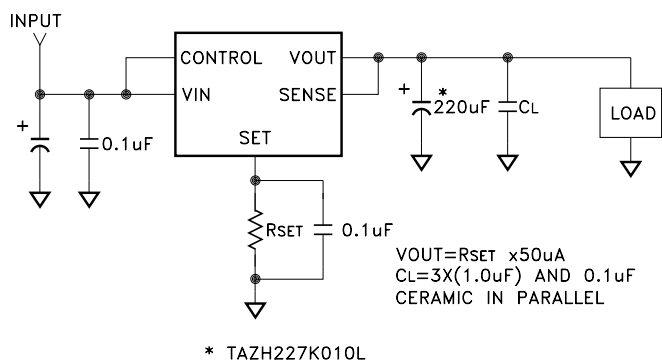

FIGURE 1
- ① Output is decoupled to ground using a 220μF tantalum low ESR capacitor in parallel with 3 pieces of 1.0μF and one 0.1μF ceramic capacitor unless otherwise specified. Sense pin connected to V_{OUT} unless otherwise specified. (See Figure 1).
- ② Guaranteed by design but not tested. Typical parameters are representative of actual device performance but are for reference only.
- ③ Industrial grade devices shall be tested to subgroup 1 unless otherwise specified.
- ④ Class H and K devices shall be 100% tested to subgroups 1, 2 and 3.
- ⑤ Subgroup 1 TA = TC = +25°C